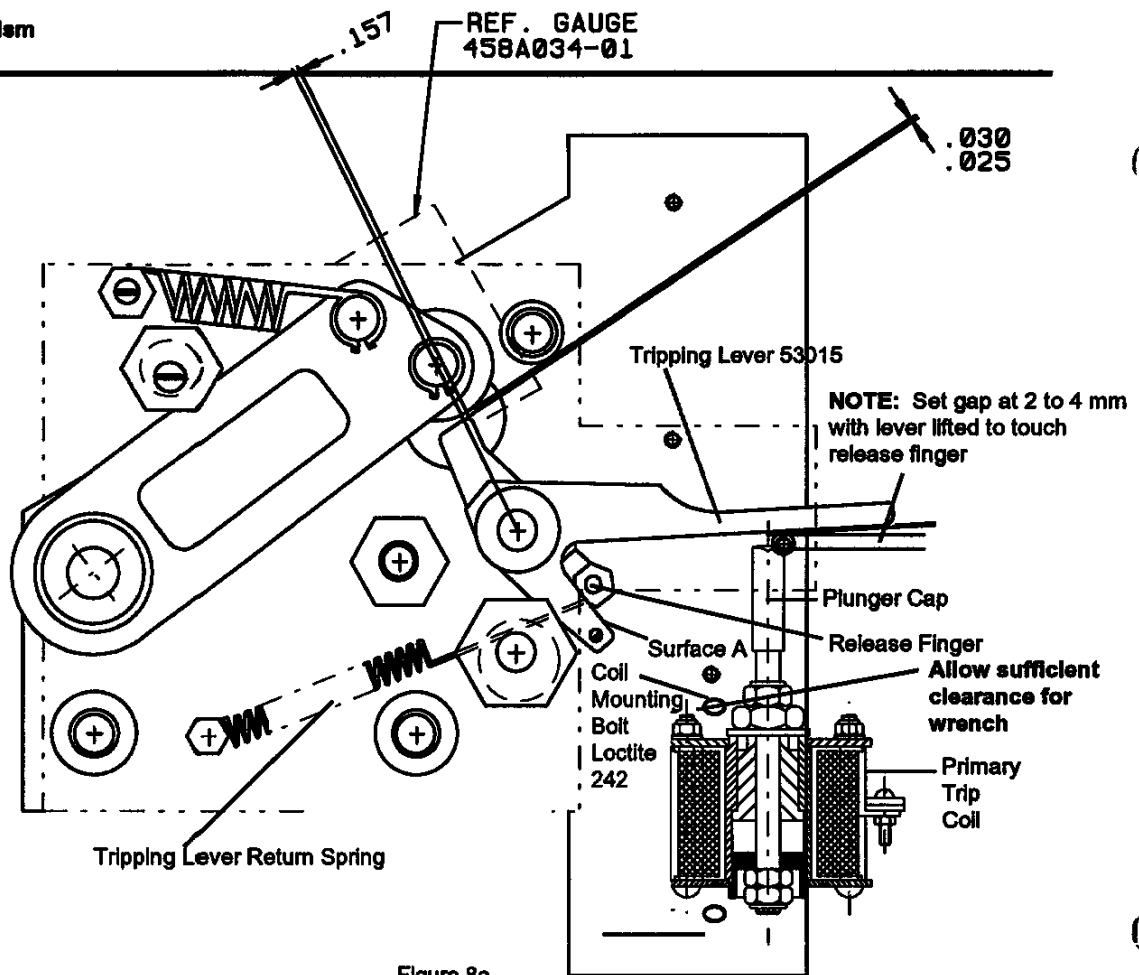

Figure 8a
**Important:** The circuit breaker must be closed (and the closing spring charged) to measure the gap between the plunger cap (Fig. 8a) and the tripping lever 53015. However, adjusting this gap should only be done with the closing and opening springs discharged and all control and auxiliary power disconnected. (Perform all measurements and adjustments for a close coil with the closing and opening springs discharged (no need to charge any springs) and all control and auxiliary power disconnected.)
1. With the closing and opening springs discharged and all control and auxiliary power disconnected, mount the trip coil as far to the right as possible while still allowing enough room for a wrench to fit between the trip coil and trip coil mounting bolt as shown in Figure 8a.
3. Very lightly and slowly lift the tripping lever 53015 until surface A (Fig. 8a) just makes contact with the release finger which is indicated by the tripping lever feeling harder to lift - stop lifting the lever at this point. Do not lift it any further. If you lift it any further, the circuit breaker will trip.